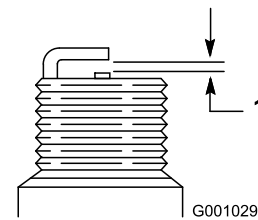

Figure 38
7. Set the gap between the electrodes on a new spark plug at 0.030 inch (0.76 mm) (Figure 38).